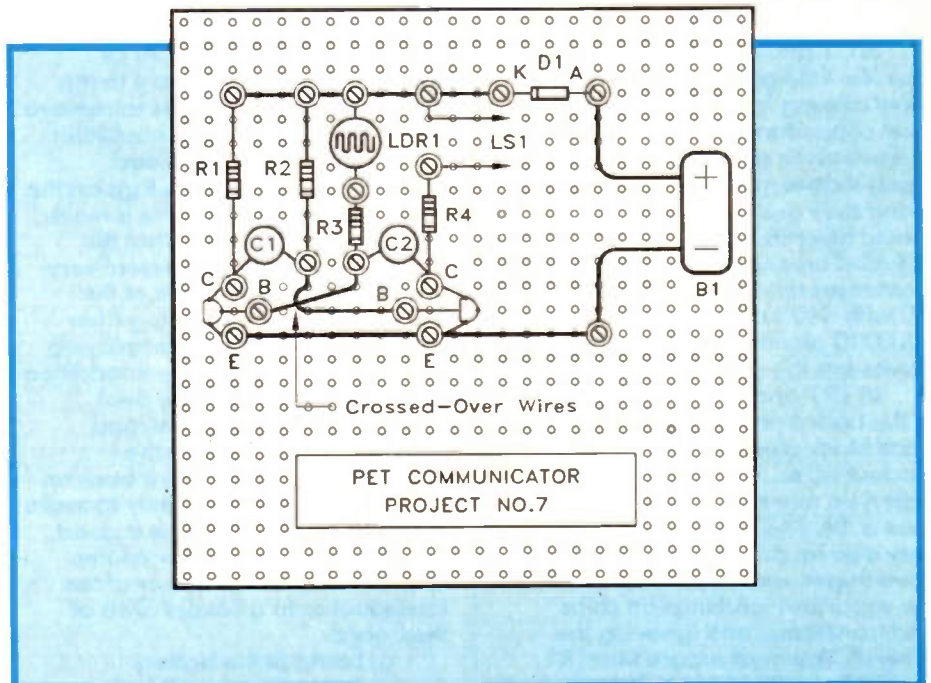

Figure 2. The component guide-sheet for the Pet Communicator.
1. Cut out the component guide-sheet provided with the kit (which is a full-size copy of Figure 2), and glue it to the top of the